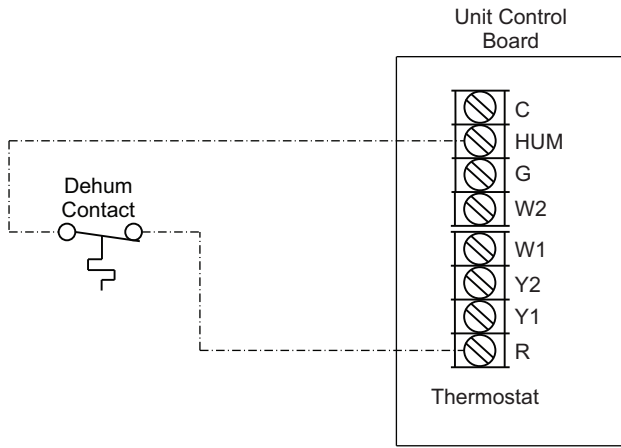

Fig. 57 — Humidistat Connections to UCB (2-Stage Electromechanical Units)
3. Connect one of the leads from the 2-conductor cable to the HUM terminal on the UCB (Unit Control Board). Connect the other lead to the R terminal on the UCB. See Fig. 57 - 59.